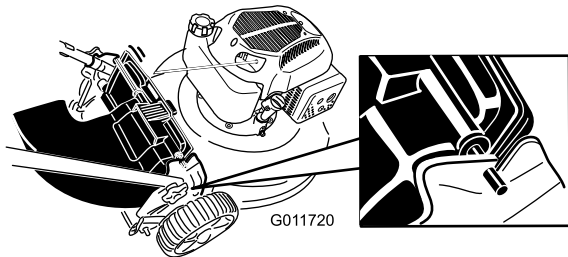

Figure 16
4. Insert the rod on the rear-discharge deflector into the notches on the mower (Figure 16).